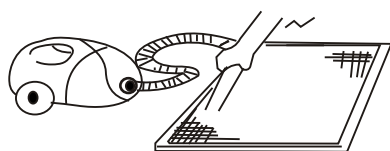

Fig. 1
- The air-in side should face up when using vacuum cleaner. (See Fig. 1)